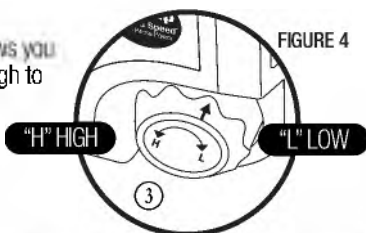

FIGURE 5
- Use the chart to determine the best speed for the bit diameter. **FIGURE 5.**